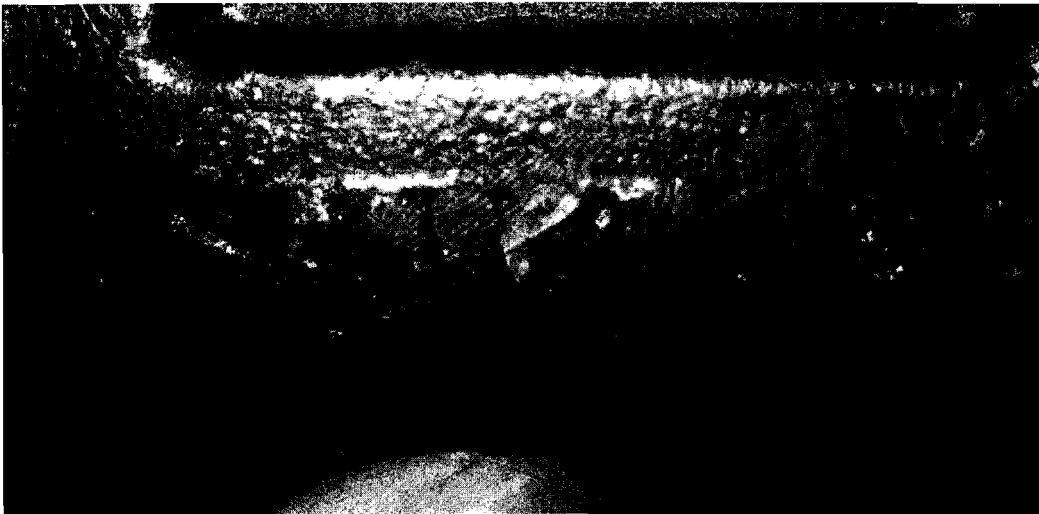

Figure 4
- If the Lot number is unreadable (See Figure 4), the torque rod should be replaced.